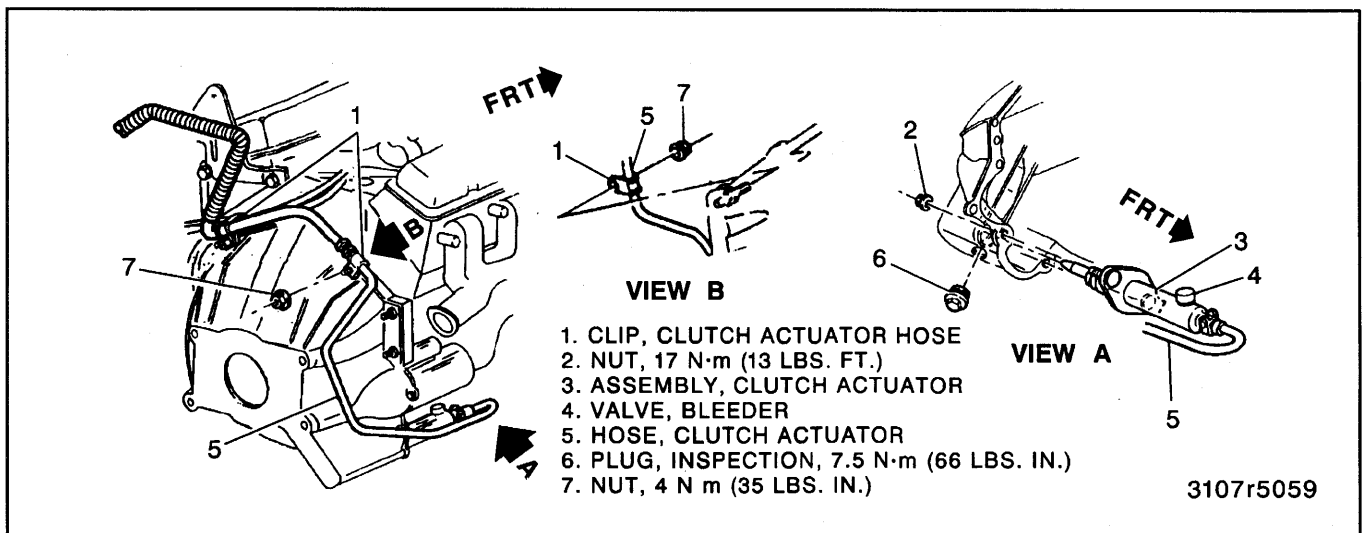

Figure 3—Actuator Cylinder and Hydraulic Hose
8. Hydraulic line to engine nuts and clips (figure 3).
7. Clips and nuts retaining clutch actuator hose to the engine (figure 3).
- 2. Actuator cylinder (figure 3).